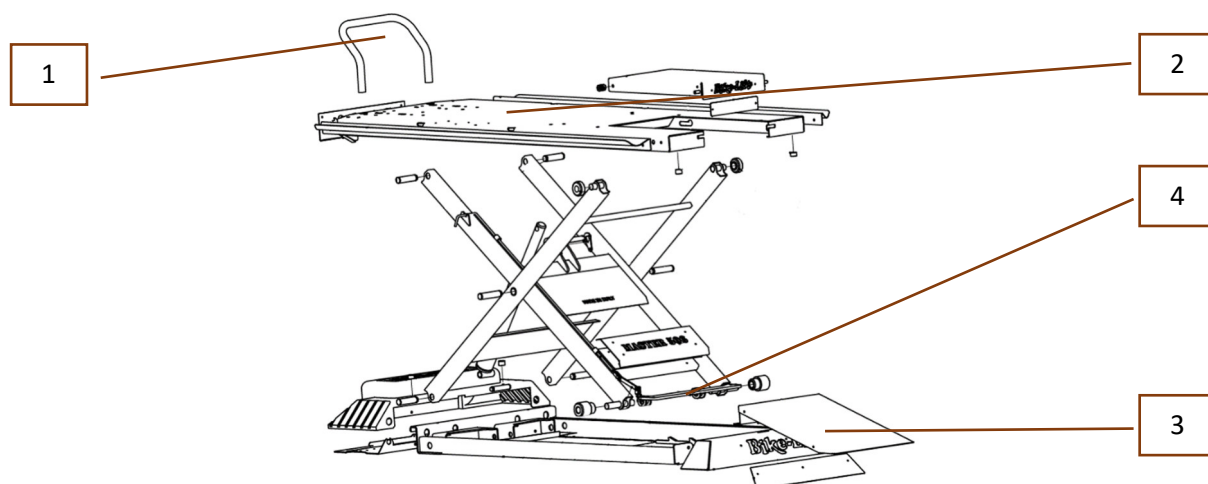

Figure 6 – general model of a lifting platform
Before installing the vehicle on the platform, it is essential to use the wheel stop (Figure 6, [1]), to check that the work surface (Figure 6, [1]) is **completely lowered** and the ascent ramp (Figure 6, [3]) is properly positioned.
Once the working height has been reached, slightly lower the lifting platform in order to make sure that the safety bar (Figure 6, [4]) is leaning against the stop locks; otherwise, continue the ascent until the bar exceeds the stop locks located at the base of the lift for the chosen working height;
- 3- Use the pump to raise the lifting platform with about 3 cm, then release the safety bar (Figure 6, [3]) through the special lever placed sideways. Operate the descent control;